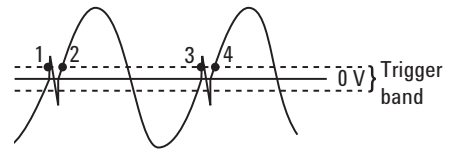

Figure 5. The two small peaks (spurious signals in this case) generate unwanted triggers at point 1 and point 3 because the trigger band is set too narrow.
- High quality counters let you adjust this band to minimize unwanted triggering. Figure 5 shows a signal with some noise